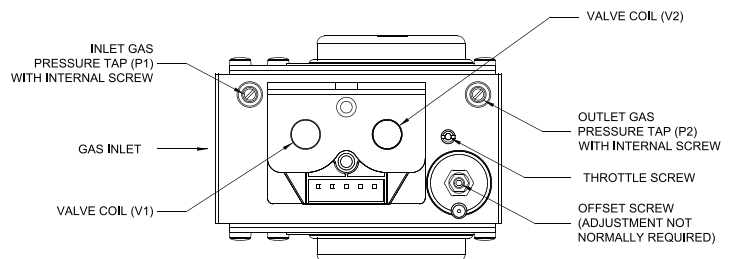

Figure 49: Gas Valve Detail
Make sure that all adjustments at high fire are made with the throttle, not offset screw (see Figure 49). The offset screw has been factory set using precision instruments and must never be adjusted in the field unnecessarily.
- b. If high fire O_2 is too low (CO_2 is too high), increase O_2 (decrease CO_2) by turning the throttle screw clockwise in 1/4 turn increments and checking the O_2 (or CO_2) after each adjustment. If boiler is equipped with 2 gas valves, throttle screw adjustments must be done to both gas valves equally and simultaneously. Refer to Figure 49 for location of throttle screw. Verify CO air free is less than 200 ppm.
- c. If high fire O_2 is too high (CO_2 is too low), decrease O_2 (increase CO_2) by turning the throttle screw counter-clockwise in 1/4 turn increments and checking the O_2 (or CO_2) after each adjustment. If boiler is equipped with 2 gas valves, throttle screw adjustments must be done to both gas valves equally and simultaneously. Refer to Figure 49 for location of throttle screw. Verify CO air free is less than 200 ppm.
- e. If low fire O_2 is too low (CO_2 is too high), increase O_2 (decrease CO_2) by turning offset screw counterclockwise in less than 1/8 turn increments and checking the O_2 (or CO_2) after each adjustment. If boiler is equipped with 2 gas valves, offset screw adjustments must be done to both gas valves equally and simultaneously. Refer to Figure 49 for location of offset screw. Verify CO air free is less than 200 ppm.
- f. If low fire O_2 is too high (CO_2 is too low), decrease O_2 (increase CO_2) by turning offset screw clockwise in less than 1/8 turn increments and checking the O_2 (or CO_2) after each adjustment. If boiler is equipped with 2 gas valves, offset screw adjustments must be done to both gas valves equally and simultaneously. Refer to Figure 49 for location of offset screw. Verify CO air free is less than 200 ppm.
1. **Conversion** of Phantom X models PHNTM399C and PHNTM500C from one fuel to another is accomplished using the throttle screw on the gas valve. Figure 49 "Gas Valve Detail" shows the location of the throttle screw on the valve. Locate the throttle screw on the boiler being converted.